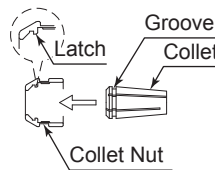

Fig. 6
- ③ To install the collet, hold the collet at a slight angle, and insert it into the collet nut. (Fig. 6)